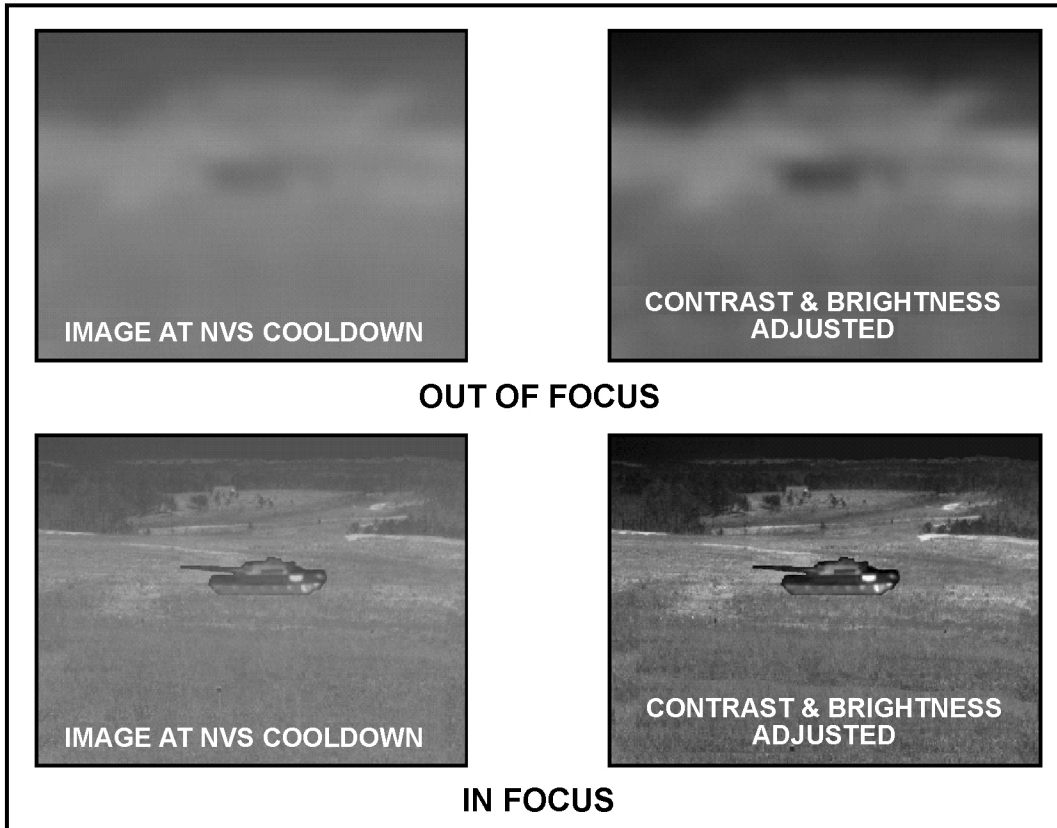

Figure C-13. Focus adjustments.
(1) **Focus.** The BCF switch is used to adjust the NVS image focus. (An object is in focus when the gunner can easily identify its details or features.) Just like a camera, when an object is in focus in the NVS, anything closer or farther away appears out of focus. When the gunner first uses the NVS after cool down, he adjusts the focus before he adjusts the contrast and brightness. Otherwise, the edges of objects in the target scene are blurred, and the gunner is not able to adjust contrast and brightness properly (Figure C-13, page C-10).